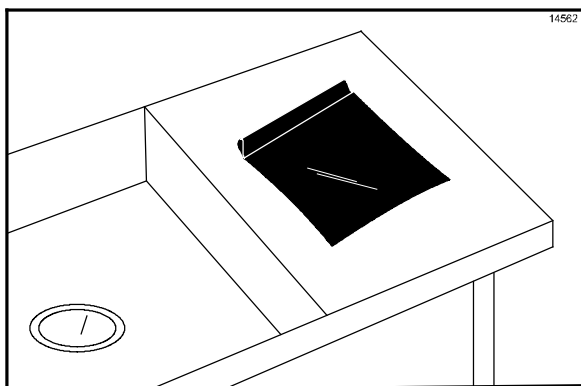

Figure 17
7. Place the release material sheet on a clean, flat surface temporarily for further cleaning. **Do not** fold, crease, or lay it on sharp objects. (See Figure 17.)